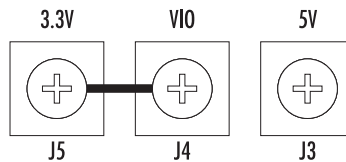

Figure 17. VI/O in the 3.3V position (factory default)
1. Locate lugs J3, J4, and J5 on the backplane (see figure 14 on page 36). Using a Philips screwdriver, remove the jumper from the “3.3V”—“VIO” position (headers J5—J4). See figure 17.